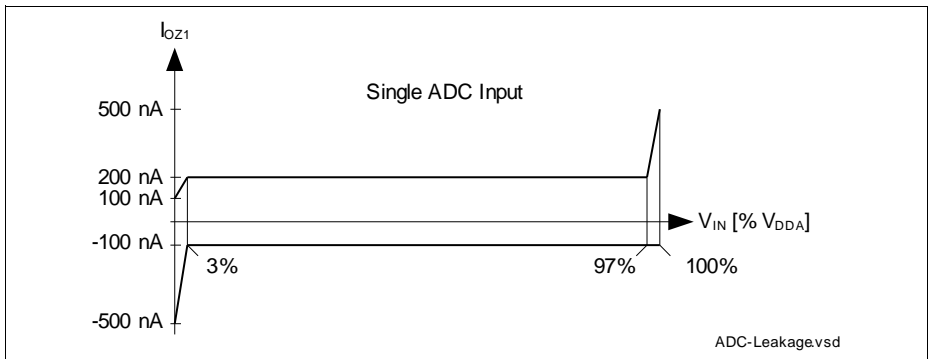

Figure 7 ADCx Analog Input Leakage Current
- 3) The leakage current definition is a continuous function, as shown in figure ADCx Analog Inputs Leakage. The numerical values defined determine the characteristic points of the given continuous linear approximation - they do not define step function (see Figure 7).